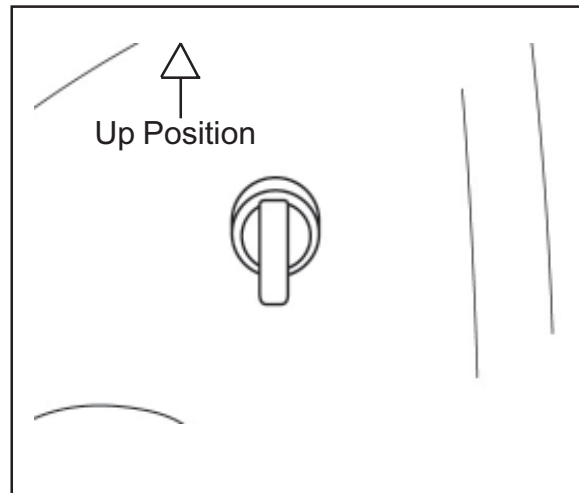

Fig. 6
7. Make sure both T-anchors are orientated in the up-down position. (Fig. 6)